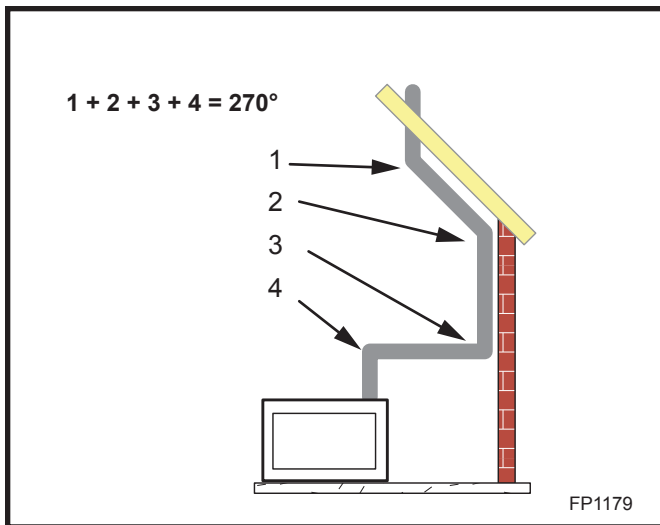

Fig. 24 Maximum elbow usage.
- Two sets of 45° elbow offsets may be used within the vertical sections. From 0 to a maximum of 8' (2.5 m) of vent pipe can be used between elbows. (Fig. 24)
- The maximum angular variation allowed in the system is 270°. (Fig. 24)